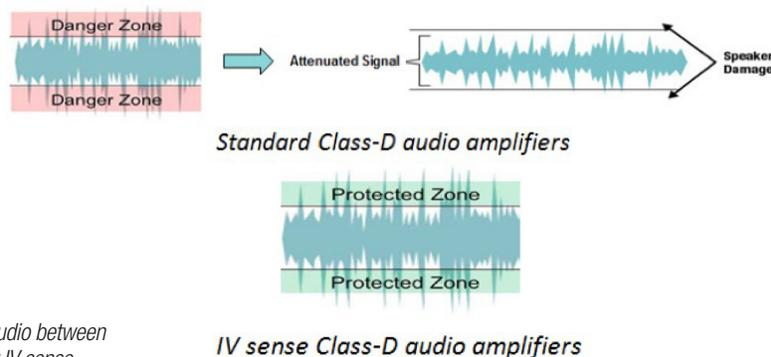

Figure 7. Comparison of audio between amplifiers with and without IV sense
Excursion is the distance which a speaker diaphragm moves in and out from its resting position. It needs to be controlled to avoid the diaphragm from traveling past its excursion limit, which can lead to damage in the speaker. Amplifiers control the excursion in real time by monitoring it via current and voltage (IV) sense feedback or in a feed-forward model created for the speaker, shown in **Figure 7**. Traditional